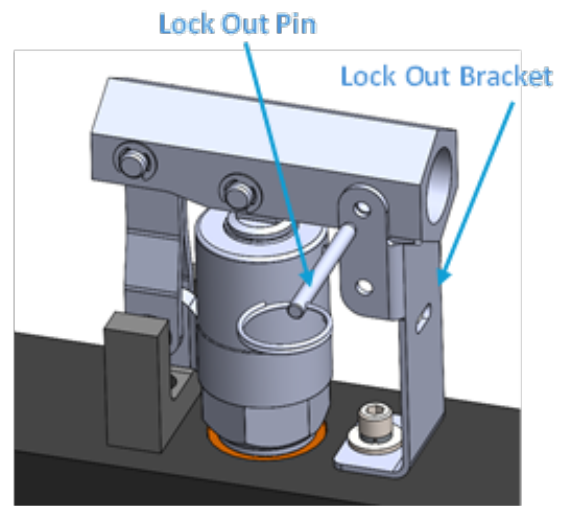

Figure 2: Lock-Out Pin Locator
- c. Remove Lock-Out pin from pump lever locking bracket. See Figure 2 for details.